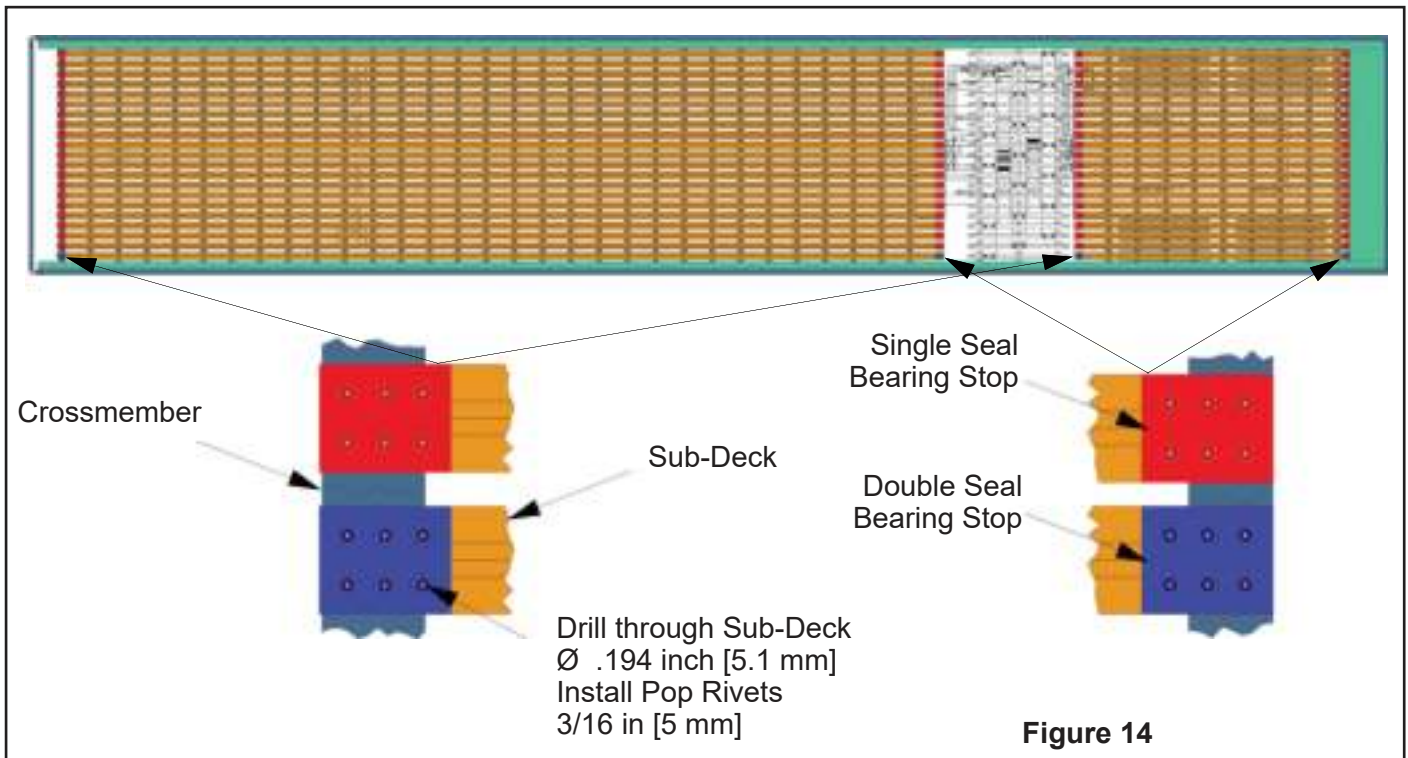

Figure 14
1. Bearing Stops keep bearings in place and are installed with pop rivets. Slide bearing stops onto the ends of the sub-deck in the appropriate orientation and flush with the ends of the sub-decks. Drill (6) holes through sub-deck, using holes in bearing stops as a drill jig. Install (6) rivets per bearing stop. (4) Bearing Stops per slat are pre-drilled and supplied by KEITH Mfg. with order. (See Figure 14)